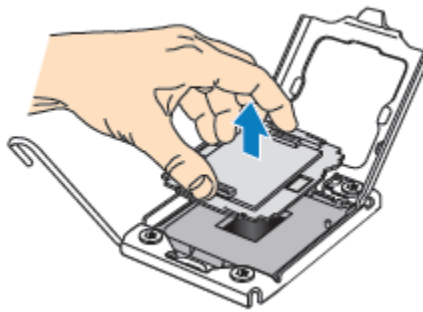

Figure 10. Remove the Socket Protective Cover
7. Remove the socket protective cover (see Figure 10).